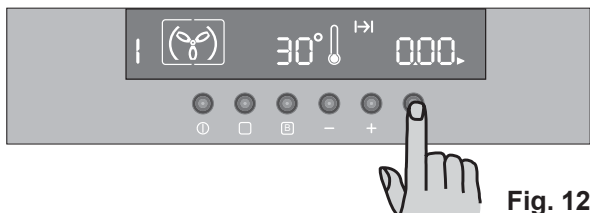

Fig. 12
- 2) Press button  to select the "Cooking Duration" function (Fig. 12). The "Cooking Duration" symbol  will flash and the control panel will display "0.00".